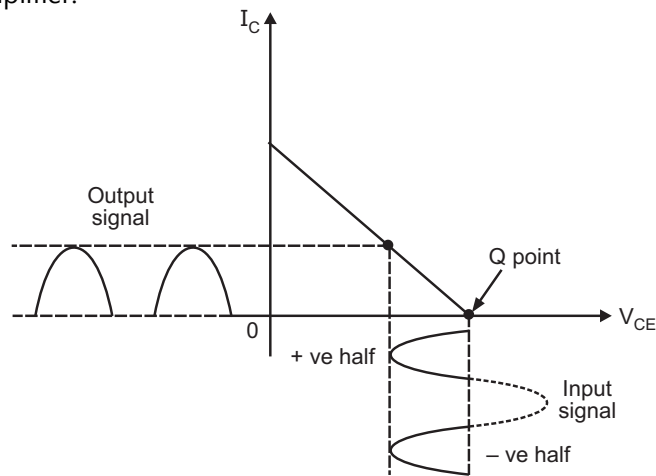

Fig. 1.6 : Class B amplifier
- (ii) **Class B amplifier** : In class B amplifier, current flows through the active device for nearly one half cycle of the input signal. Hence, the operating point for this type of operation is situated at an extreme end of the I-V characteristic curve. When the input signal is absent, there is no current through the device. When a.c. input signal is applied, current flows during the positive half cycle of the signal only as shown in the Fig. 1.6. Here we see that, the collector current can vary from its minimum value to maximum value on the I-V characteristic curve, causing more output power, than class A amplifier.